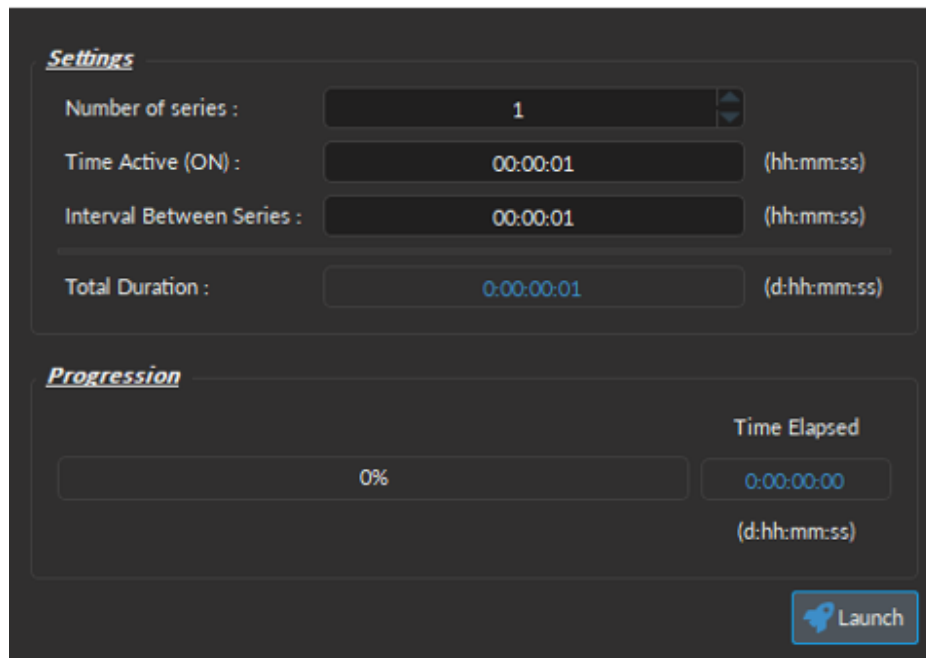

Figure 5.13: Time Series Window
2. The **Time Series** button opens the Time Series window (Fig. 5.13). This tool allows all channels to share the same timing.